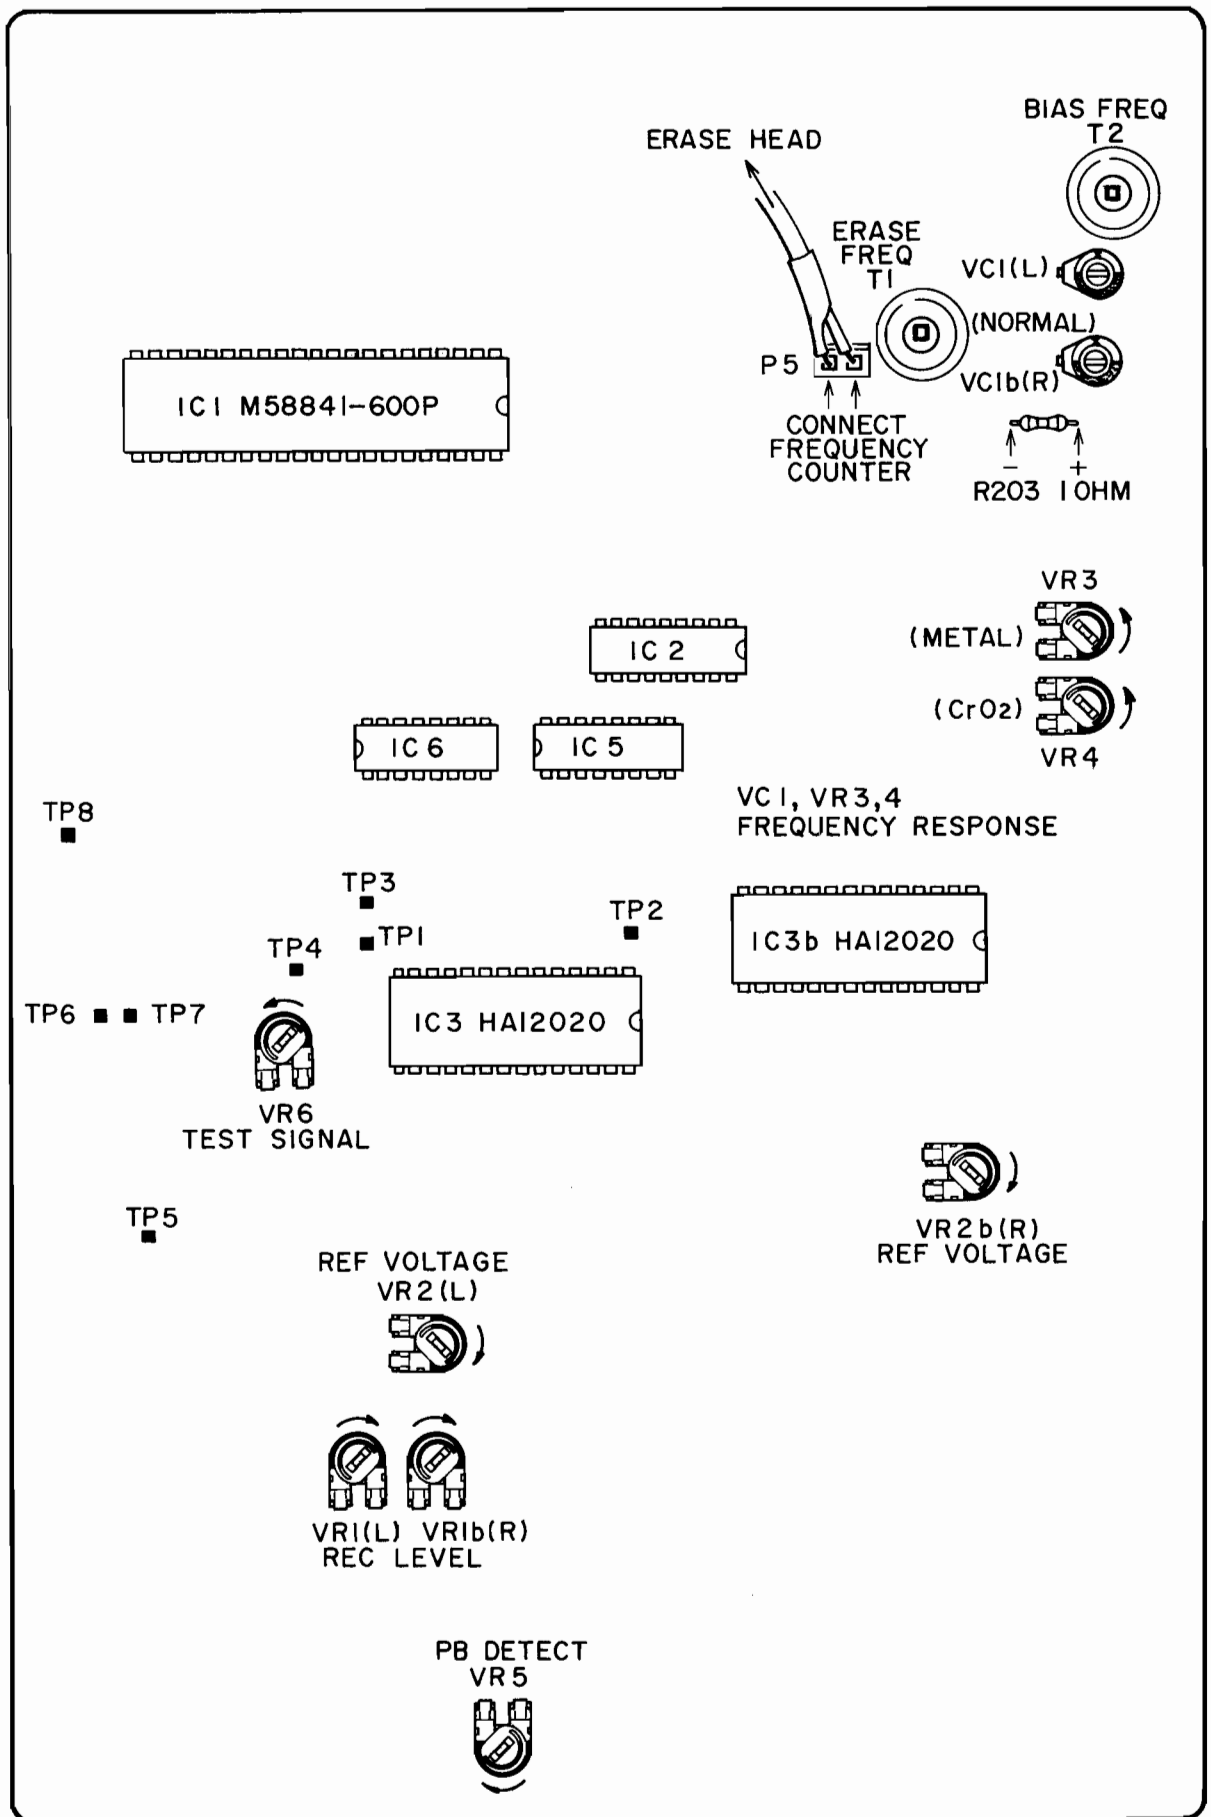

Fig. 12 Tuning P.C Board
5. IC3 (HA12020) REFERENCE VOLTAGE**ADJUSTMENT (Fig. 12)**
- b. Adjust VR2 (L) so that the voltage to GND of TP1 will be $1.10 \pm 0.03V$ DC.
- c. Adjust VR2b (R) so that the voltage to GND of TP2 will be $4.00 \pm 0.05V$ DC (before SERIAL NUMBER 70401-00101), $5.10 \pm 0.05V$ DC (after SERIAL NUMBER 70401-00101).
6. REC BIAS OSC ADJUSTMENT (Fig. 12)
- b. Set VC1 as shown in Fig. 12.
7. FREQUENCY RESPONSE**ADJUSTMENT (Fig. 12)**
8. RECORDING LEVEL ADJUSTMENT**(Fig. 12)**
9. TEST SIGNAL ADJUSTMENT (Fig. 12)